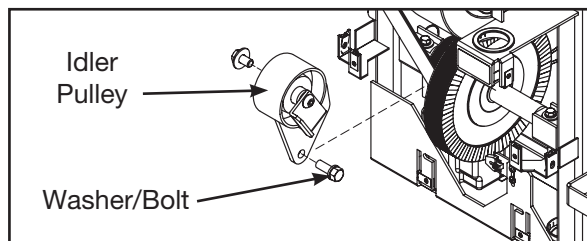

Figure 7
- B. Remove the idler pulley from frame. See Figure 7. **NOTE:** Idler pulley is not needed with self-tensioning belt.